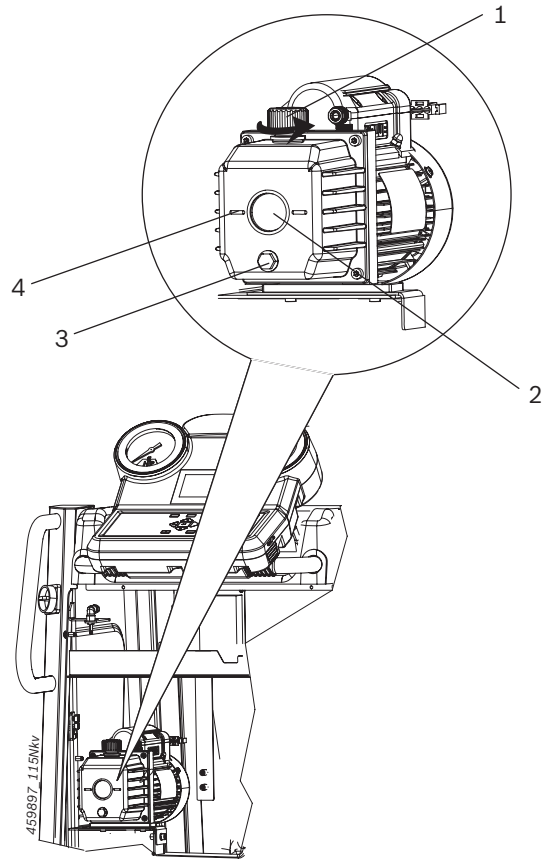

Fig. 6: Filling vacuum pump oil
4. Open the screw cap of the vacuum pump (Fig. 6, Pos. 1).
5. Observe the oil level in the vacuum pump sight glass (Fig. 6, Pos. 2). If the oil quantity is inadequate, open the screw cap of the vacuum pump.